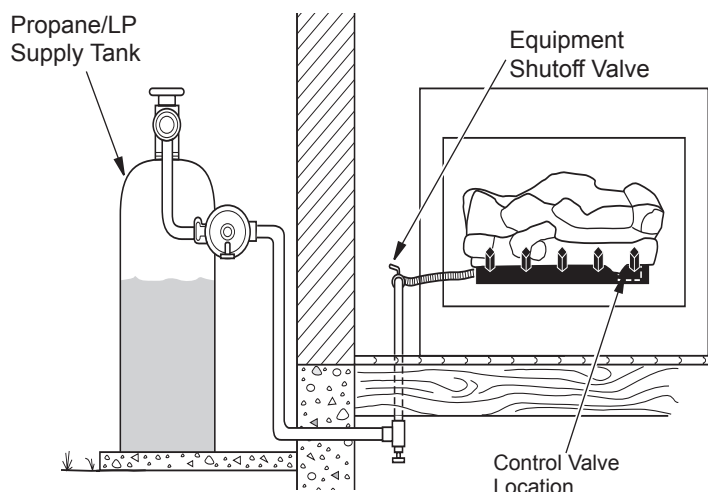
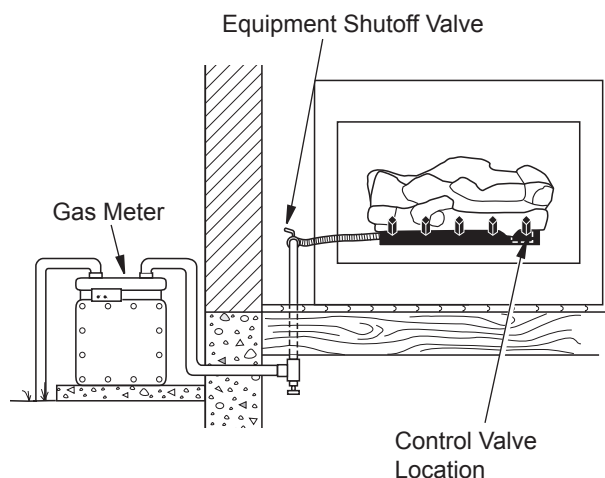

Figure 14- Checking Gas Joints (Propane/LP Only)
Figure 15 - Checking Gas Joints (Natural Gas Only)
3. Check all joints from gas meter to equipment shutoff valve for natural gas or propane/LP supply to equipment shutoff valve for propane/LP (see Figure 14 or Figure 15, page 10). Apply noncorrosive leak detection fluid to all joints. Bubbles forming show a leak.
4. Check all joints from gas meter to equipment shutoff valve for natural gas or propane/LP supply to equipment shutoff valve for propane/LP (see Figure 14, page 9 or Figure 15, page 10). Apply noncorrosive leak detection fluid to all joints. Bubbles forming show a leak.